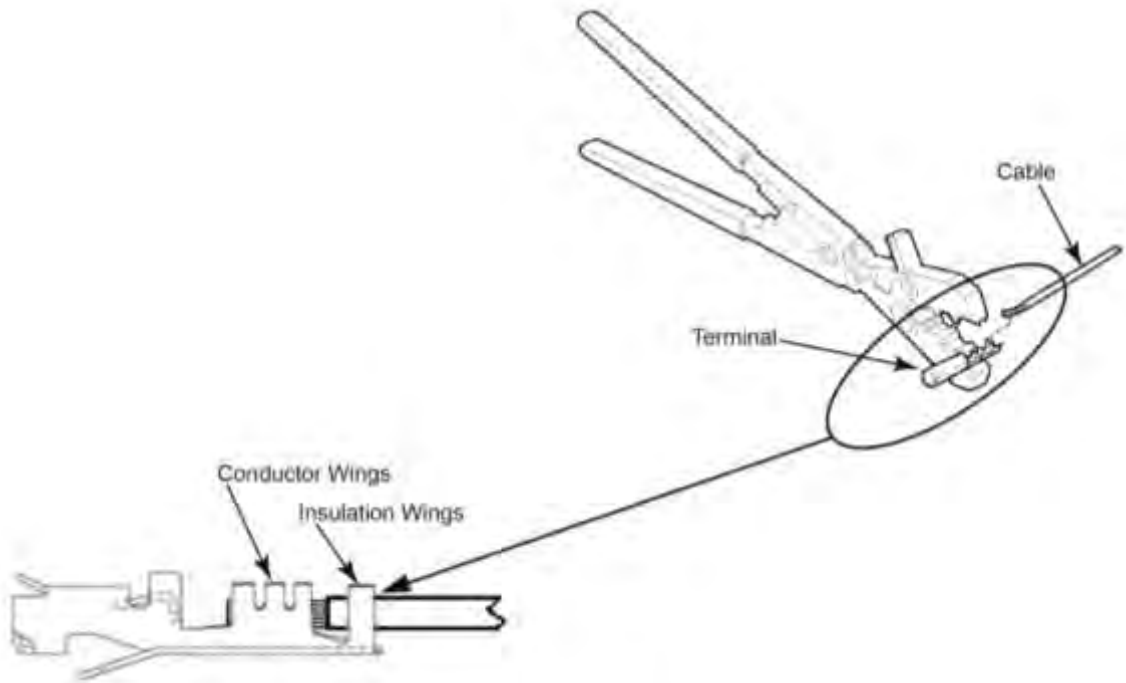

Figure 63
- (6) Ensure there are no cuts, breaks, cracks, or splits in the insulation.
- j. Crimp a contact onto the stripped end of each wire as shown in Figure 63.